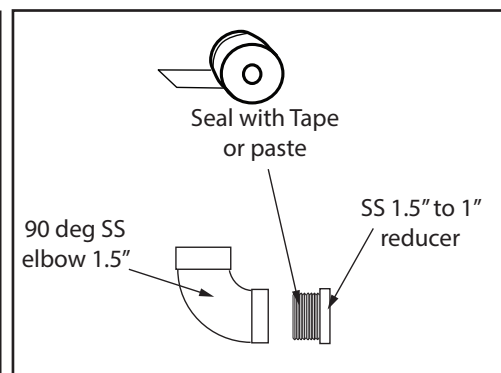

FIG. 23
- B) Attach 1.5" x 1" reducing fitting to elbow with sealing tape or paste (see FIG 23)